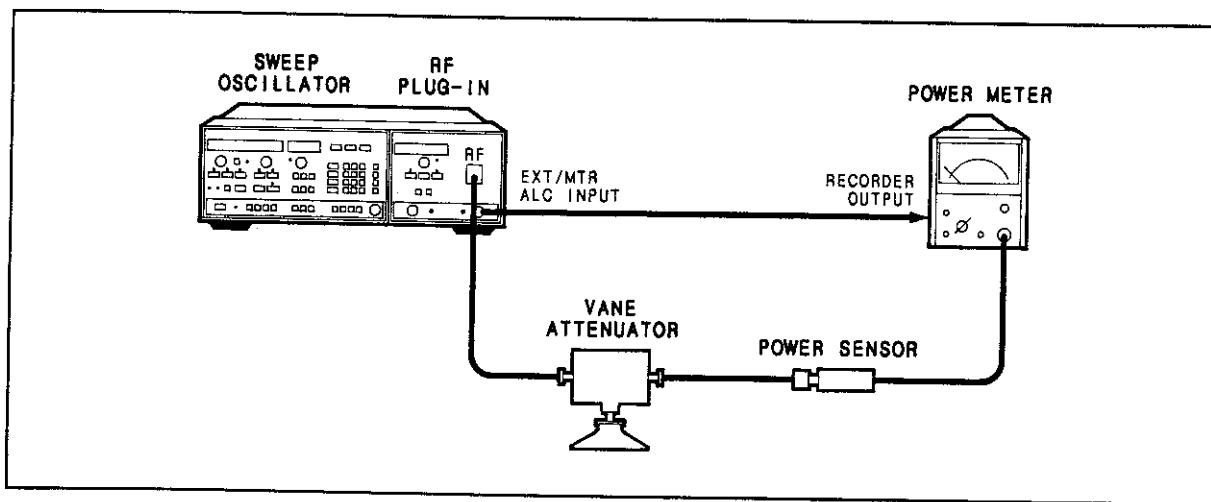

Figure 5-20. Power Meter Leveling Adjustment Setup
1. Connect the equipment as shown in Figure 5-20. Set the vane attenuator to 10 dB. Set the power meter to the 0 dBm range. Press [INSTR PRESET] [CW] [MTR].